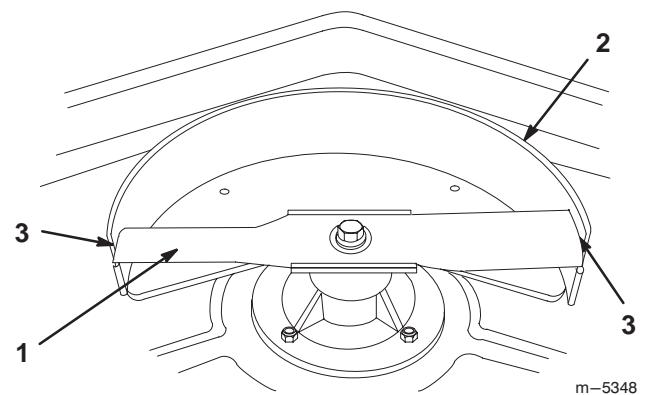

Figure 3
4. Rotate the center blade to ensure that there is equal clearance between the blade tips and the center baffle (Fig. 3).
3. Rotate the center blade to ensure that there is equal clearance between both blade tips and the center baffle (Fig. 3).